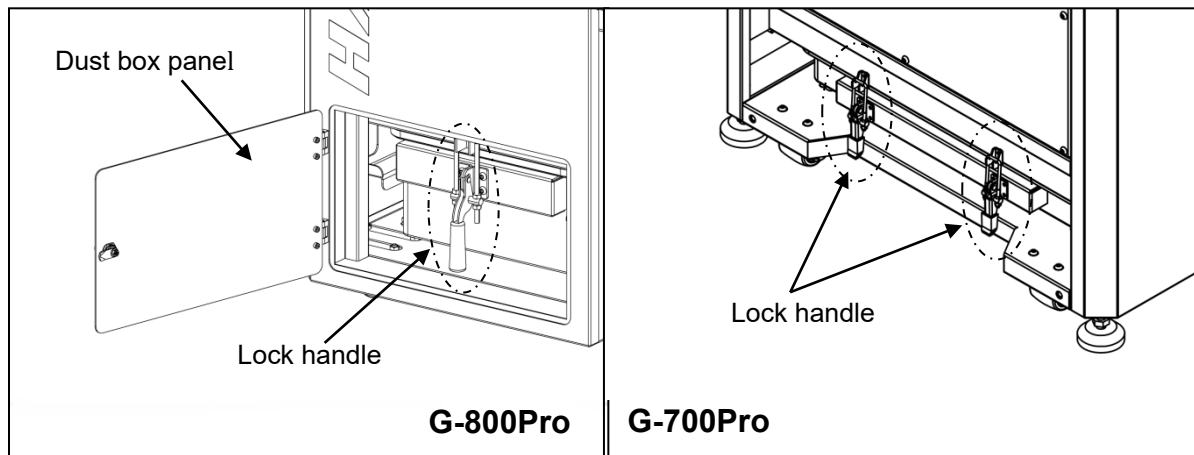

Fig. 16
The dust box of G-800Pro is located on the front of the machine, while that of G-700Pro is on the side of the machine, as shown in **Fig. 16**. To empty the dust box:
6.2 Cleaning the Dust Box (Fig.16)